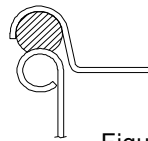

Figure 3
- Step 2:** Position the cover onto drum curl (Fig. 3) being careful to properly seat gasket around curl.